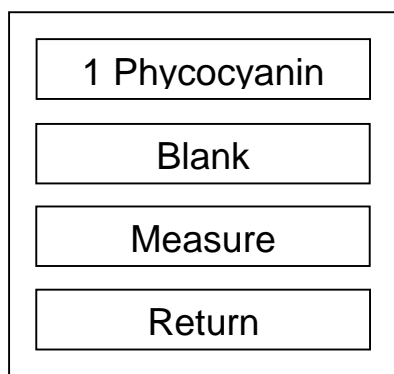

Figure 5. **Measure** screen
- d. Select the Channel to enter the “**Measure**” screen similar to Fig. 5.